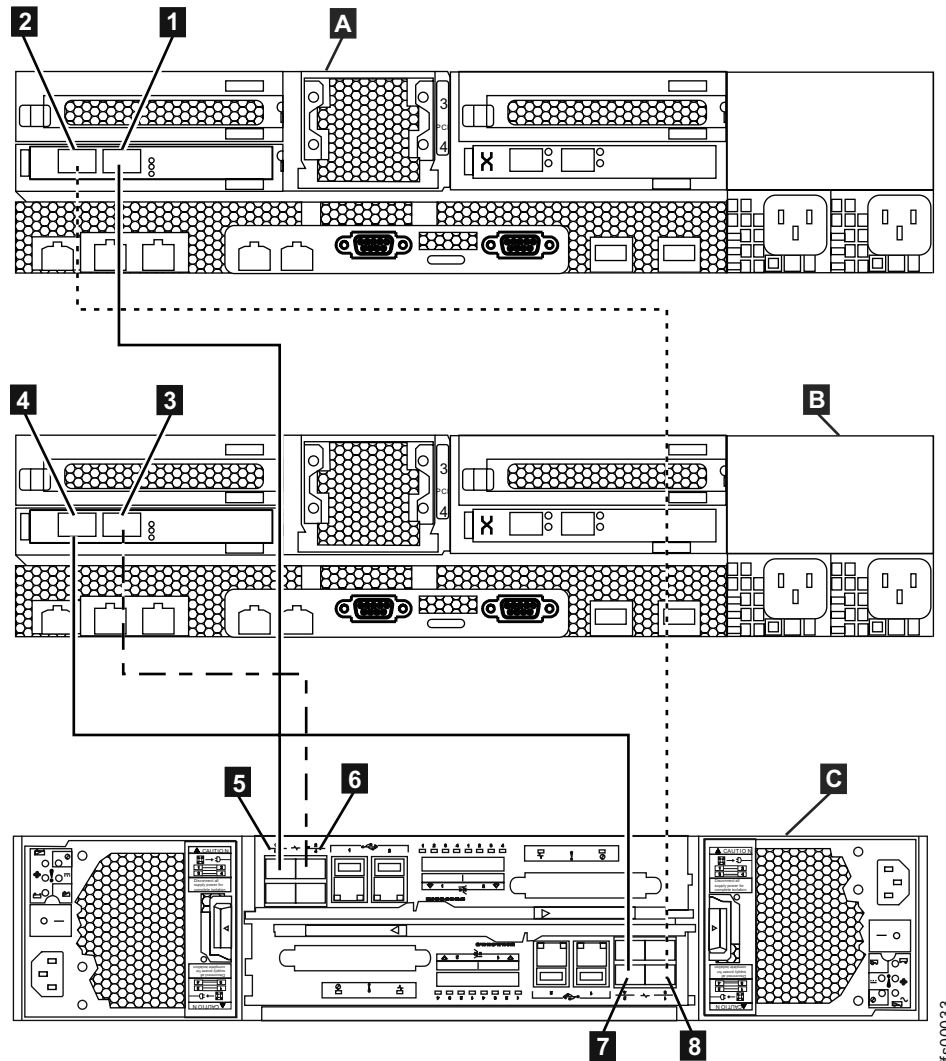

Figure 38. Diagram showing how to connect the file modules to the control enclosure using Fibre Channel cables. Refer to previous table.
- Before continuing, make sure that you have connected the Fibre Channel cabling as shown in Figure 38 on page 39 to ensure proper redundancy. Incorrect cabling may result in a loss of service during system maintenance procedures.